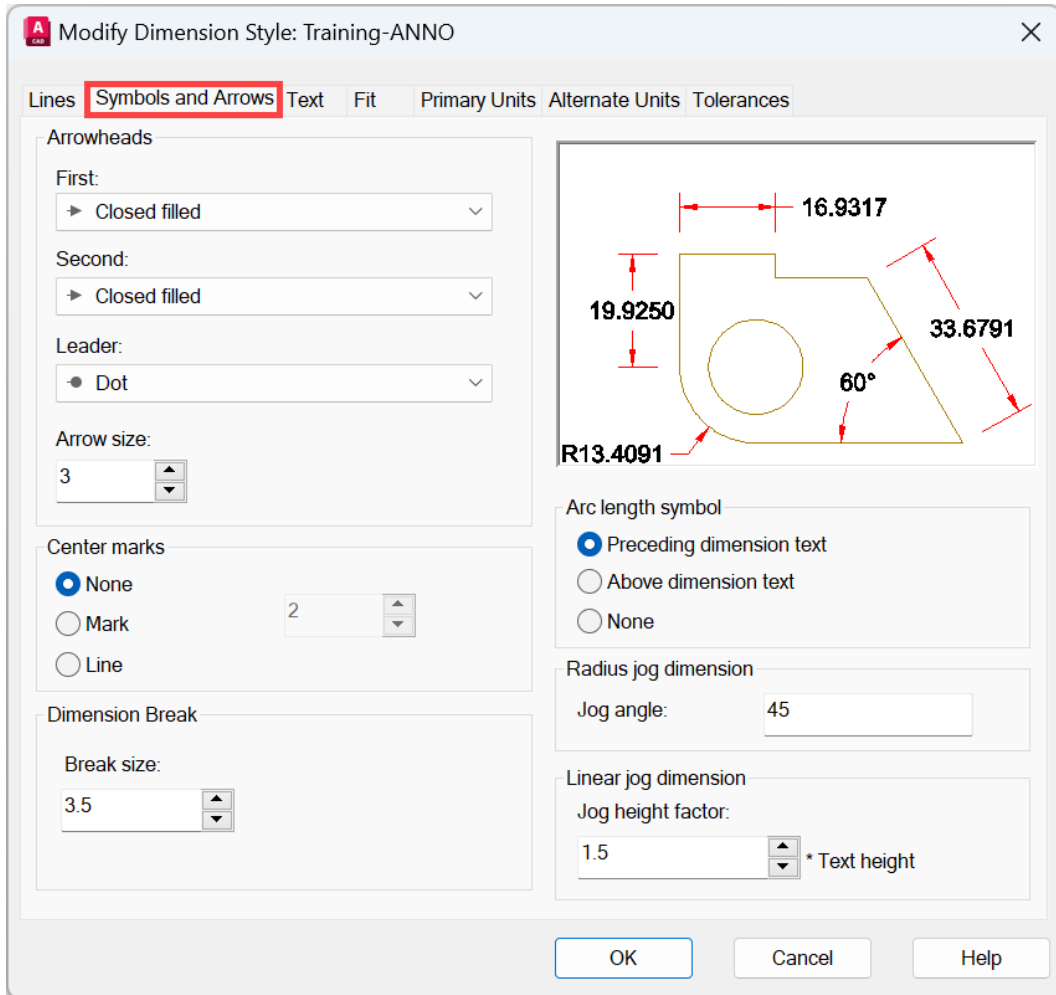

Figure 7.12: The Symbols and Arrows tab
11. Make sure to set all the settings in the **Symbols and Arrows** tab to the same as shown in *Figure 7.12*.